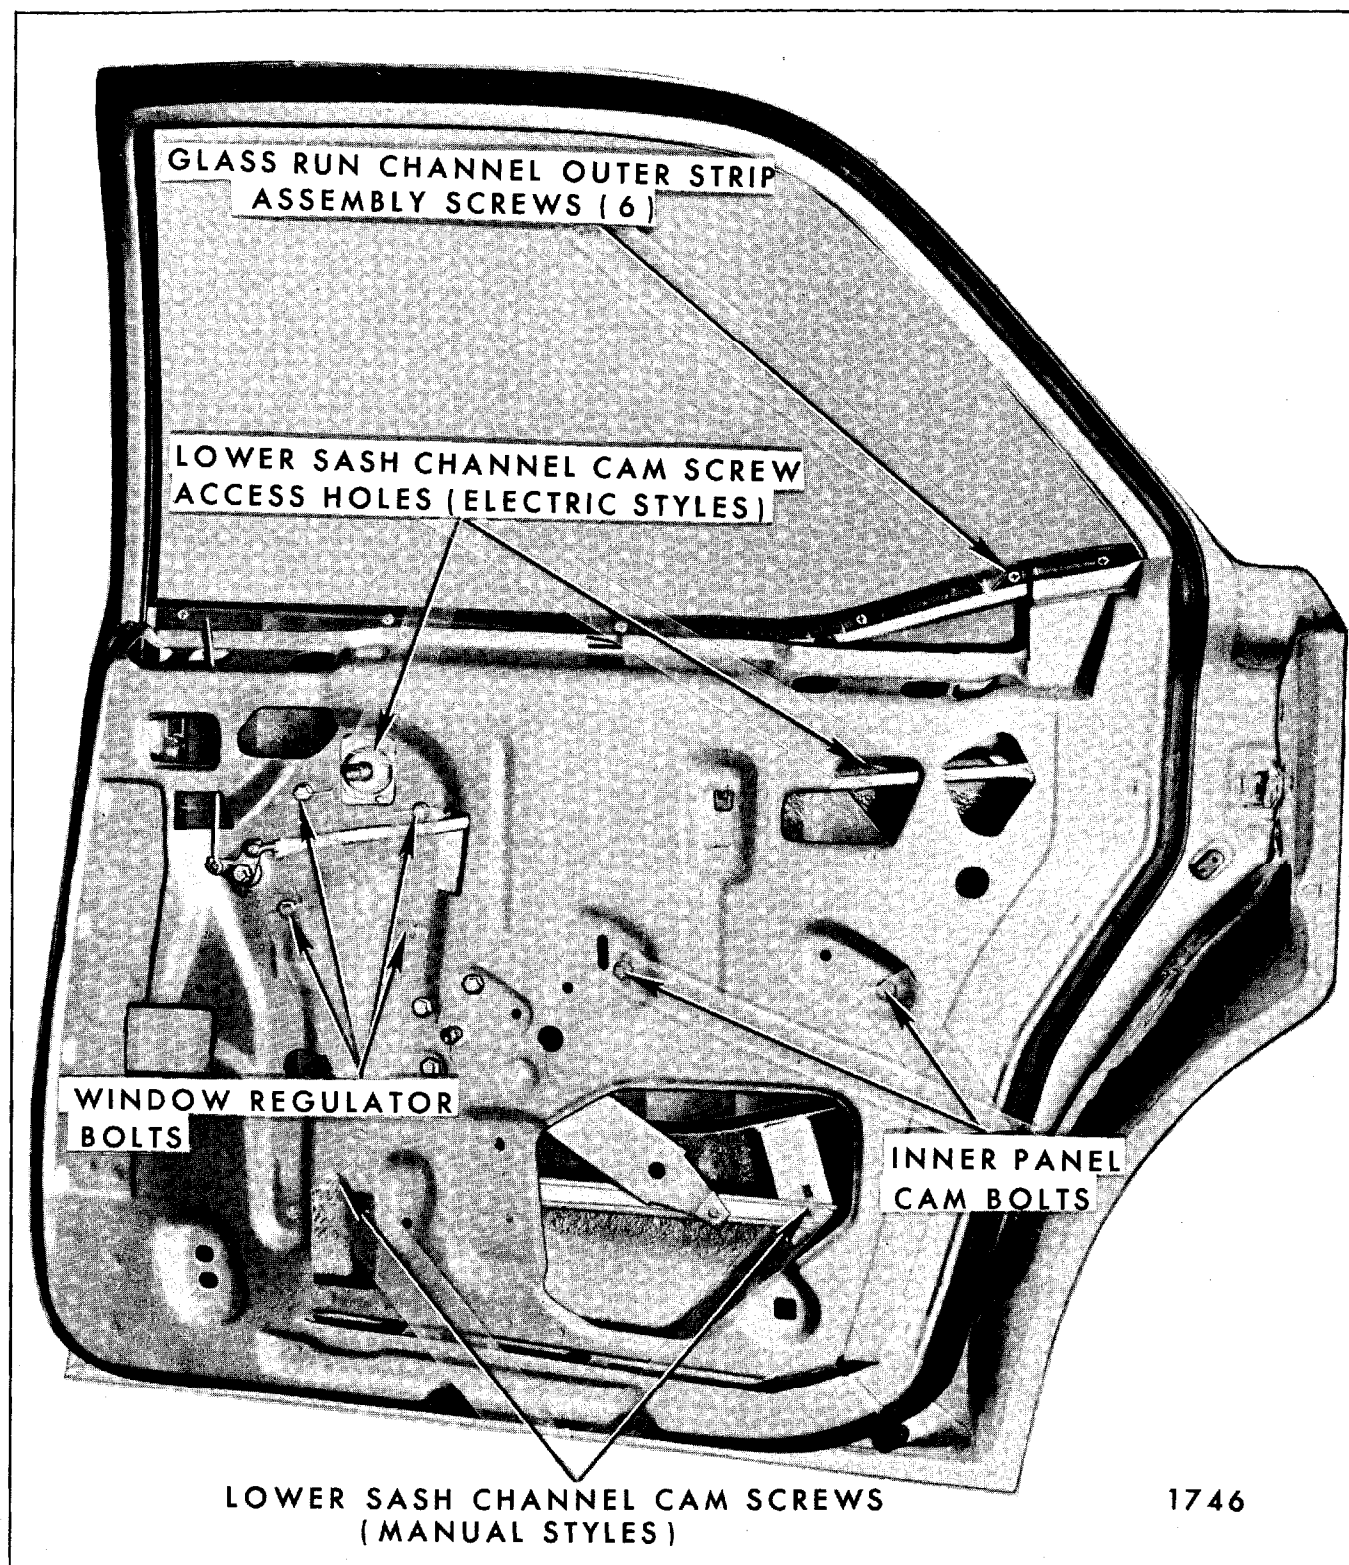
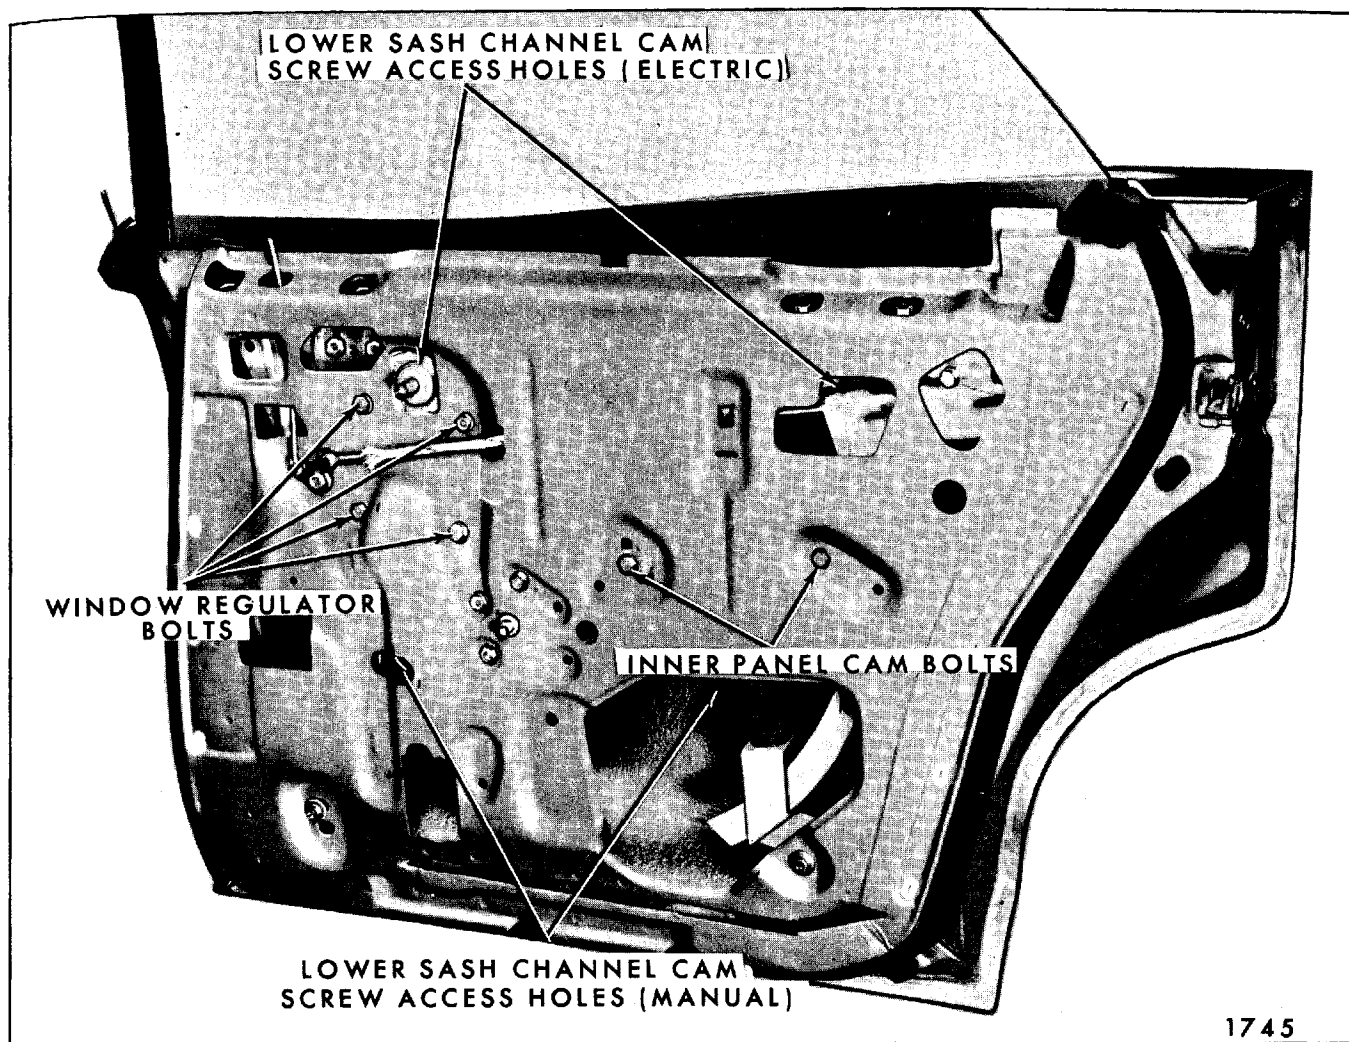

Fig. 7-160—Window Regulator Removal - "B" Closed Styles
Fig. 7-161—Window Regulator Removal - "Hardtop" Styles
2. Remove lower sash channel cam attaching screws (Fig. 7-160 for “closed” styles, 7-161 for “hardtop” styles).
4. Remove inner panel cam attaching bolts (Fig. 7-160 for “closed” styles, Fig. 7-161 for “hardtop” styles).
6. Remove window regulator attaching bolts and remove regulator through large access hole. (Figs. 7-161 and 7-160).